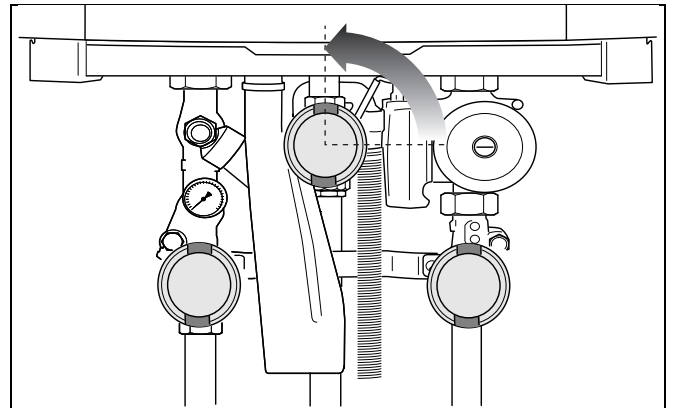

fig. 15 Opening the gas valve
- Slowly open the gas valve by pushing on the gas valve and turning it ¼ rotation in an anticlockwise direction (fig. 15). The gas valve is open when it is in its vertical position.